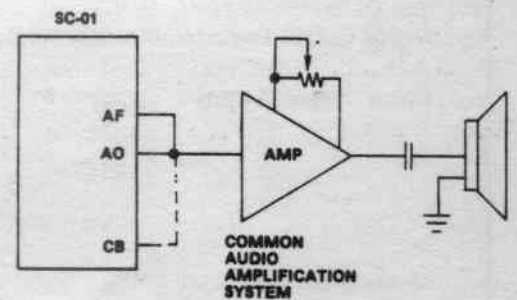

Figure 13. Controlling Audio Output Power
**Controlling Audio Output Power:** See Figure 13. A resistor or potentiometer from the speaker to ground can be used to control the audio output power.